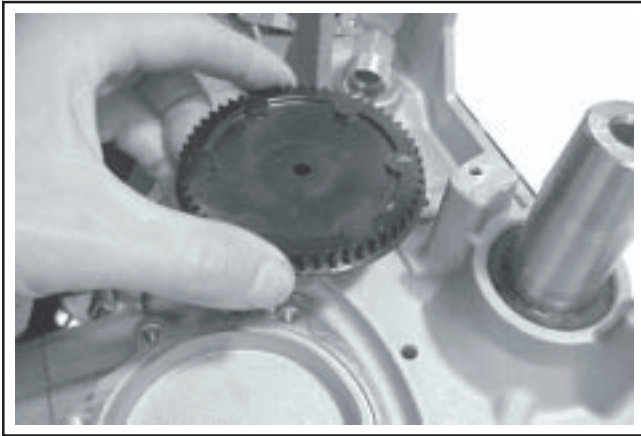

Figure 11-43. Test Fitting Pulley.
1. Remove the seal protector and/or protective tape (if used) from over the keyway and make sure the end of the camshaft is clean and free of any nicks or damage. Install and fully seat the key, squarely into the keyway. Be careful not to contact the camshaft seal. Test fit the cam pulley onto the shaft and key; it must slide on **without force or restriction**. Remove the pulley. See Figure 11-43.